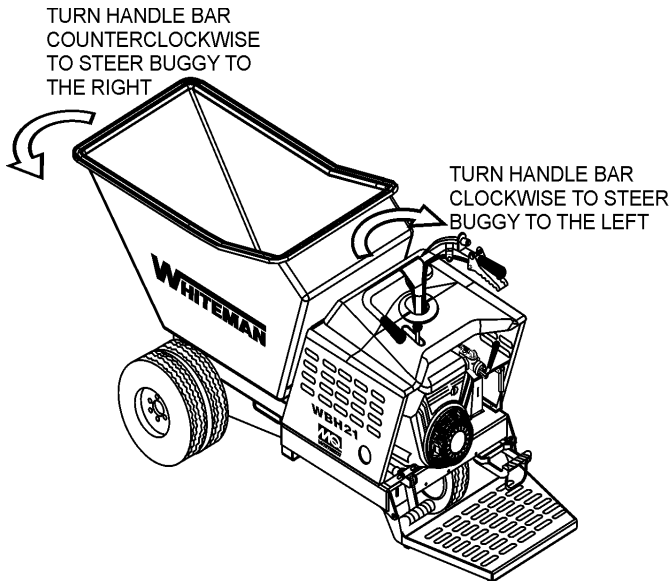

Figure 21. Steering the Buggy
1. To turn left when traveling in the forward direction, turn the handle bar clockwise (Figure 21).